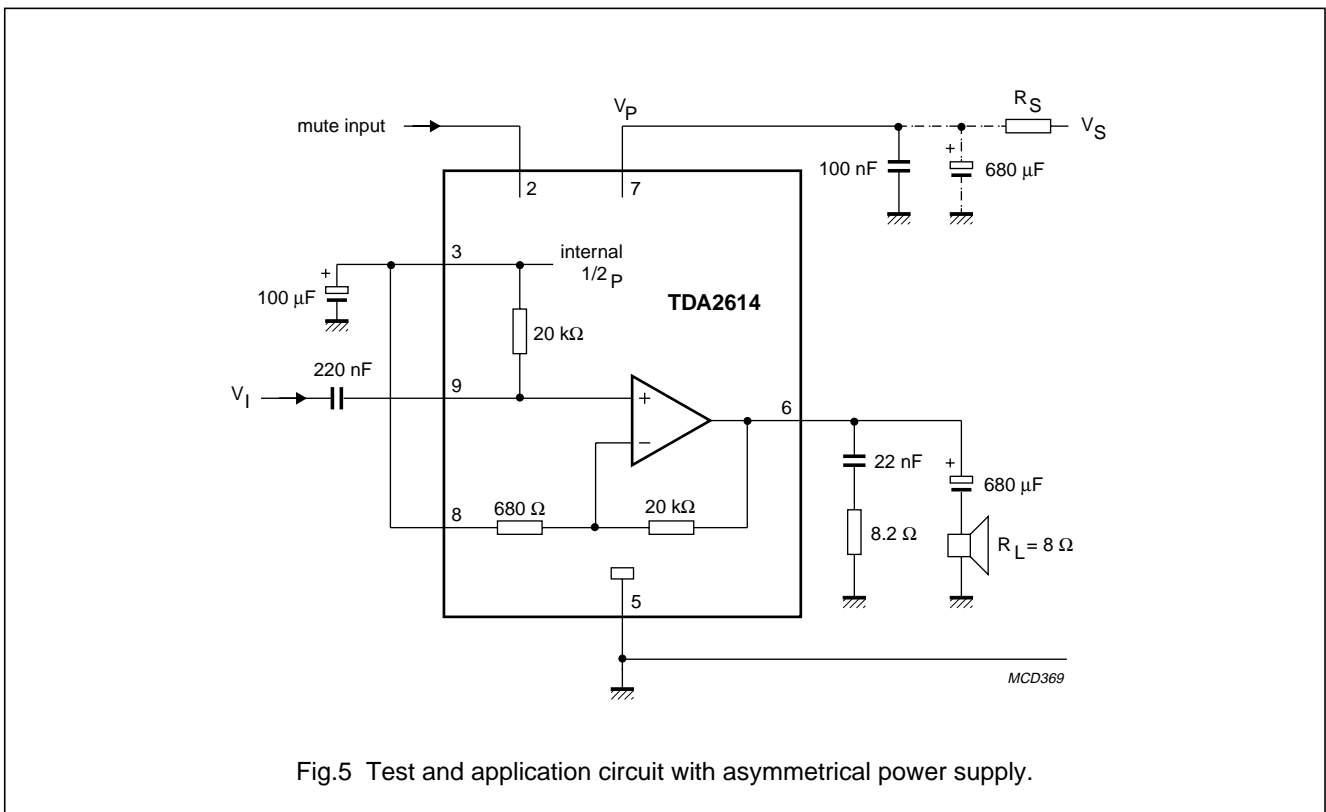

Fig.5 Test and application circuit with asymmetrical power supply.
- $V_P = 24$ V; $R_L = 8$ Ω ; $T_{amb} = 25$ $^{\circ}$ C; $f = 1$ kHz; asymmetrical power supply $I_{MUTE} < 30$ μ A. See Fig.5
- $V_P = 8$ V; $R_L = 8$ Ω ; $T_{amb} = 25$ $^{\circ}$ C; $f = 1$ kHz; asymmetrical power supply. See Fig.5